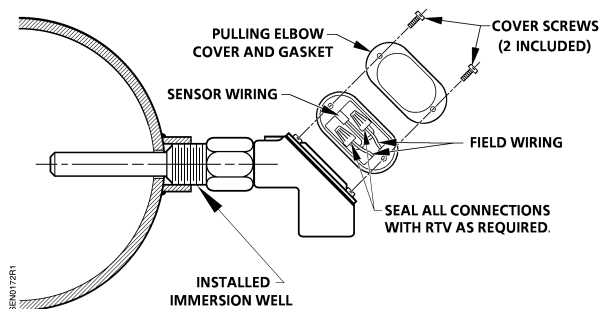

Figure 1. Immersion Sensor Installation.
- A 1/2-inch (13 mm) NPT mounting coupling must be installed in the piping system at the sensor location. Figures 1 and 2 show two types of installation in a pipe joint.